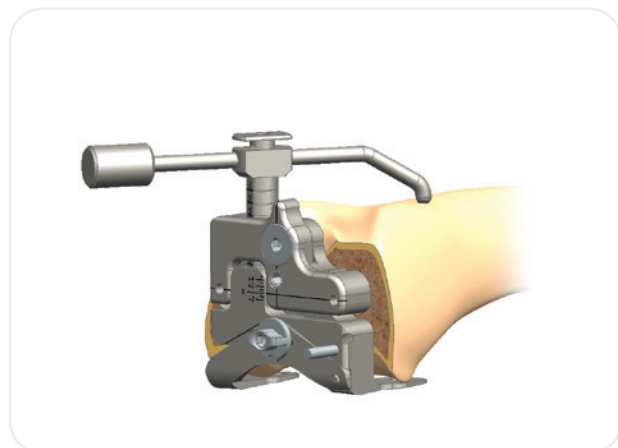

Figure 88
4. Insert the LEGION Sizing Stylus to the guide and estimate the A/P femoral size. Position the stylus tip just lateral of the anterior trochlear sulcus (**Figure 88**).